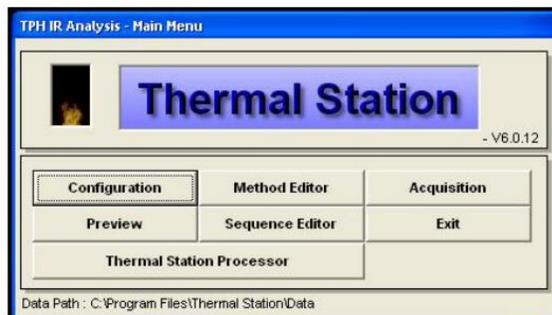

Figure 5. SRA Main Menu Screen.
4. Double-click the **TStationAcq.exe** shortcut icon on the desktop to open the software *Main Menu* (Figure 5).
1. Click **Sequence Editor** on the *Main Menu* (Figure 5).